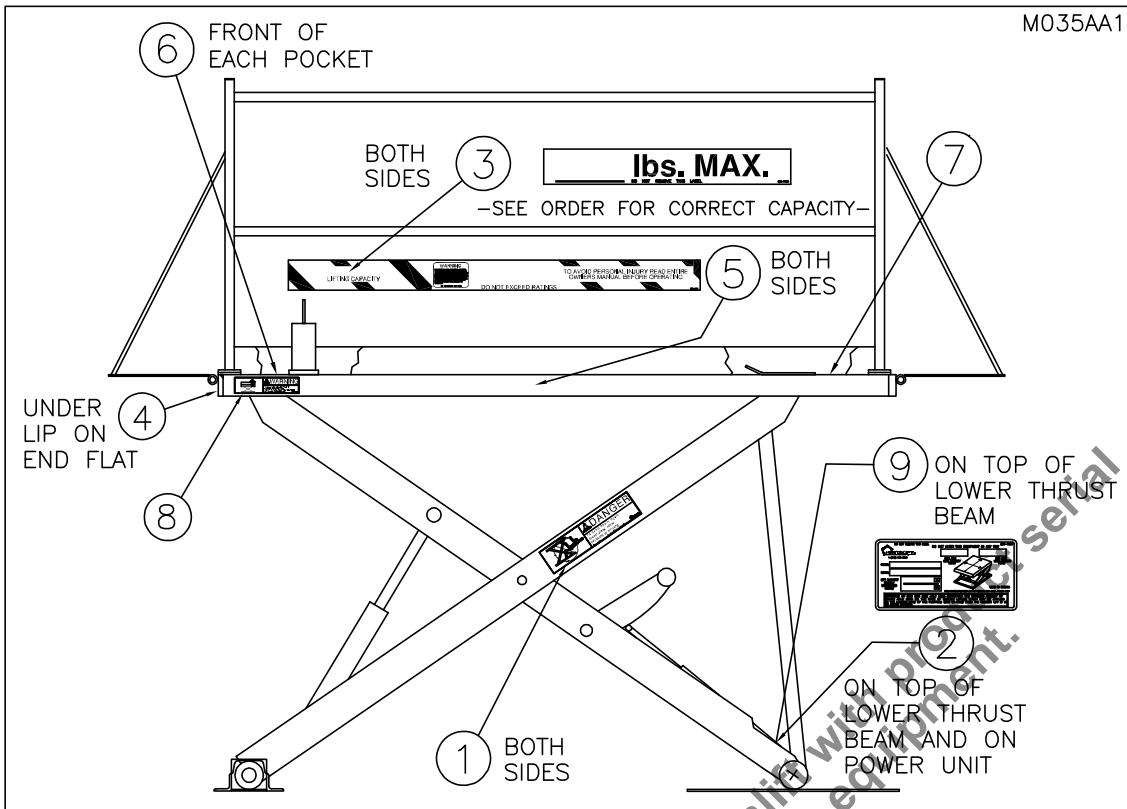

Figure 2: Safety Label and Decal Locations
2. **NEVER EXCEED THE MAXIMUM RATED CAPACITY OF THE DOCK LIFT.** (i.e. The maximum load for a 4,000 lb. rated unit is 4,000 lb. with the load center at the center of the Platform.) The retaining cradles and wear plates **MUST** be installed (See "Figure 4: Position of Retaining Cradles and Wear Plates" on page 7.) for single axle load capacity across the ends of 75% of the rated capacity and single axle load across the sides of 50% of the rated capacity. Refer to the specification plate (See "Figure 2: Safety Label and Decal Locations" on page 3) for each Dock Lift's particular rating.
NOTE: In some instances, product configuration and / or product options may dictate that the product labels will not be placed as indicated on the drawing (“Figure 2: Safety Label and Decal Locations” on page 3). Different label locations will be selected at the factory, when required, to avoid an impaired view of the labels. Note the label locations as supplied on the product, when it is received to accommodate future label replacement requirements.